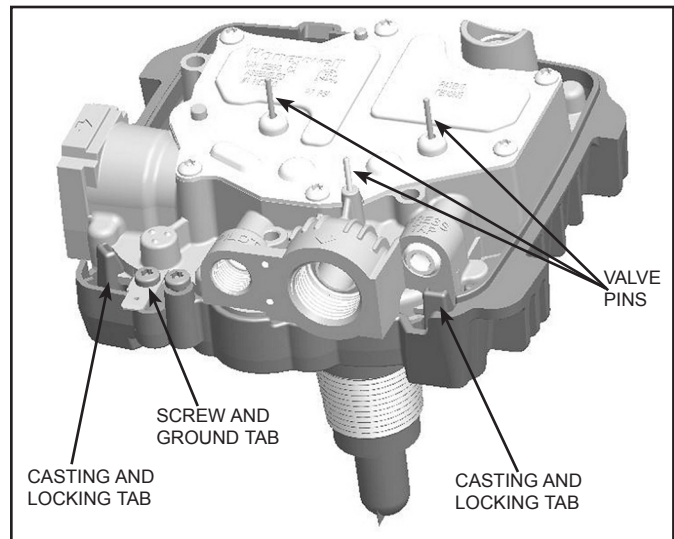

Figure 24. Gas Valve Showing Torx Screw and Ground Tab
5. Remove the screw and the ground tab with a Torx screwdriver. See *Figure 24*.